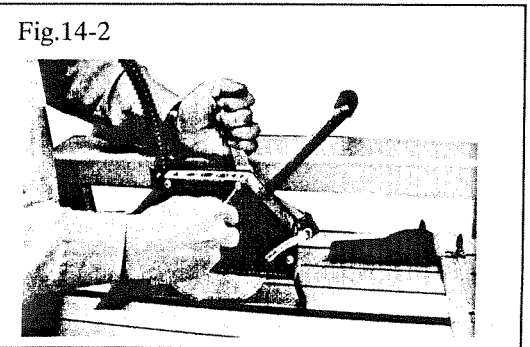

Fig.14-3
- Retirer le disque usagé (fig.14-3).